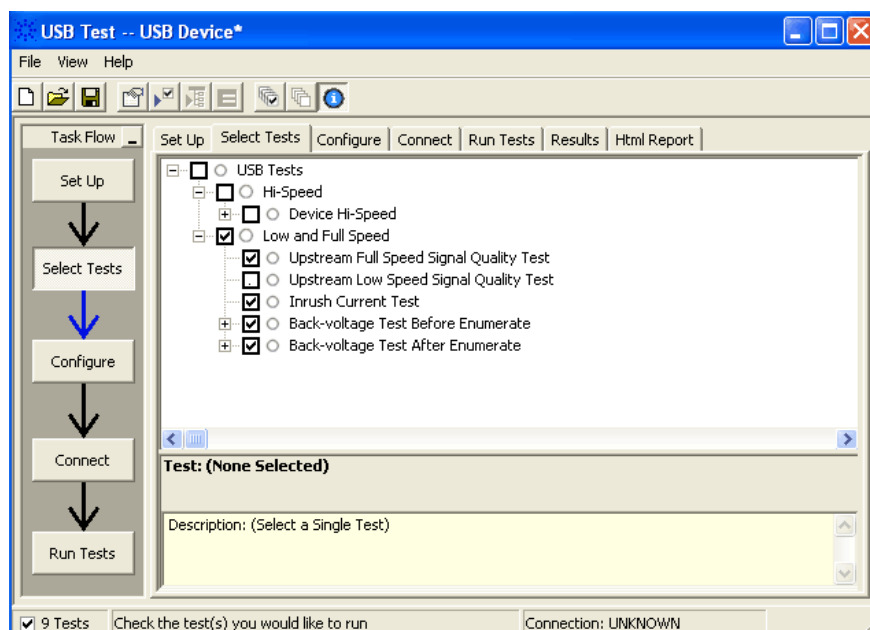
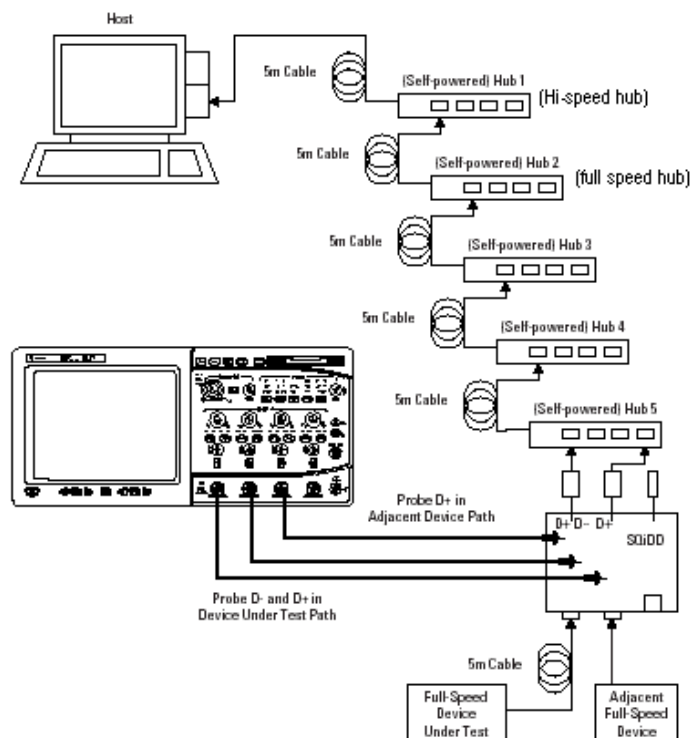

Figure 4. Automated Test software setting for the Upstream FS Signal Test
Figure 5. Upstream FS Signal Test environment¹
1. Select the test items in the USB Automated Test software on the oscilloscope as shown in Figure 4. Make sure you set the test type configuration option to Full-Speed Far End² before running the test. Connect the equipment and test fixture as shown in Figure 5.